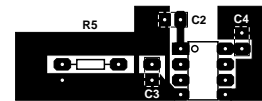

Figure 26. Top Layer of Printed Circuit Board Layout.
2. Exact offset value is dependent on layout of external bypass capacitors. The offset value in the data sheet corresponds to Agilent's recommended layout (see Figures 26 and 27).
In addition to affecting offset, the layout of the PC board can also affect the common mode rejection (CMR) performance of the isolation amplifier, due primarily to stray capacitive coupling between the input and the output circuits. To obtain optimal CMR performance, the layout of the printed circuit board (PCB) should minimize any stray coupling by maintaining the maximum possible distance between the input and output sides of the circuit and ensuring that any ground plane on the PCB does not pass directly below the HCPL-7850. Using surface mount components can help achieve many of the PCB objectives discussed in the preceding paragraphs. An example through-hole PCB layout illustrating some of the more important layout recommendations is shown in Figures 26 and 27. See Applications Note 1078, *Designing with Agilent Technologies Isolation Amplifiers*, for more information on PCB layout consideration.